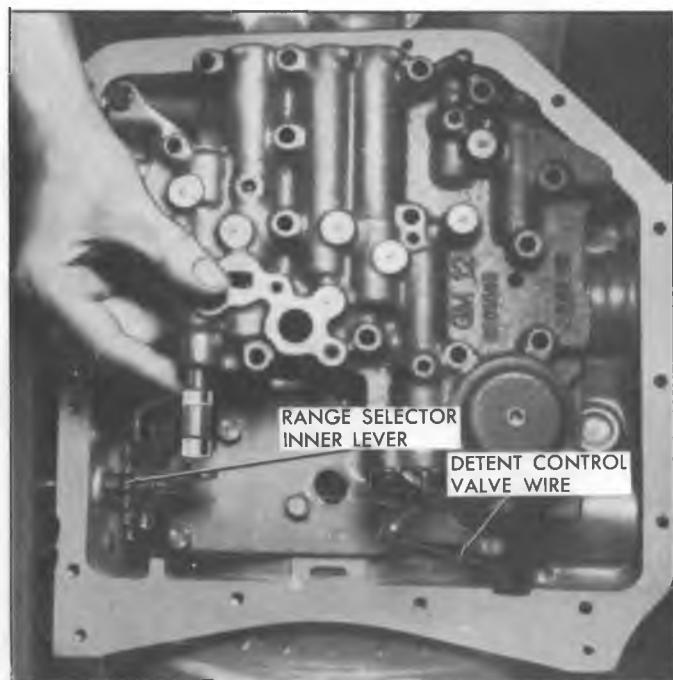

Fig. 13M--Removing Manual Control Valve Link, Valve Body and Detent Actuating Lever
2. Remove manual control valve link from range selector inner lever. Remove detent control valve link from detent actuating lever (fig. 13M). Refer to page 7-104 for valve body disassembly.